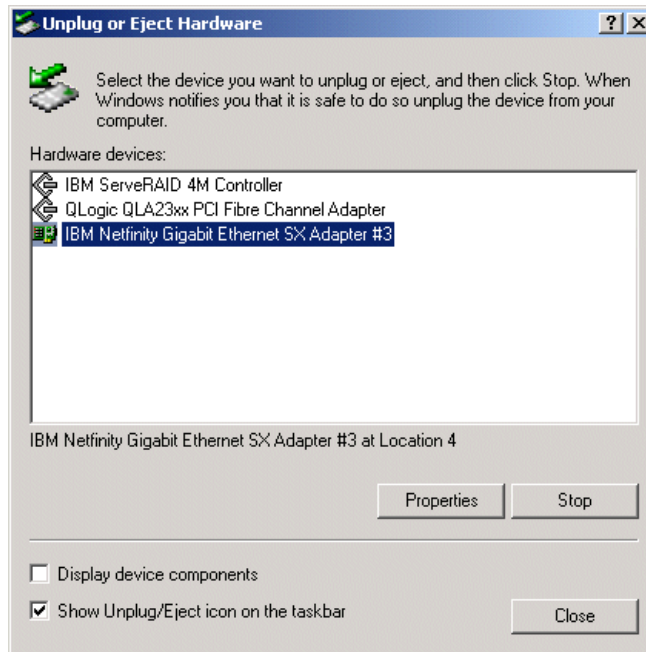

Figure 5-19 Stop adapter use by the operating system
2. Stop the adapter in the operating system. Double-click the  icon in the system tray. Figure 5-19 on page 148 appears.